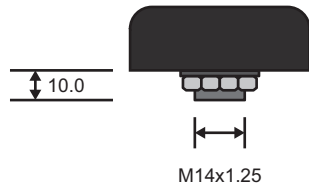

Figure 17.2 Antenna Cap — Dimensions
2. Cut a hole in the surface that will allow the cable to be thread through the surface. The cap will rest above the surface. Refer to **Figure 17.2** for dimensions.